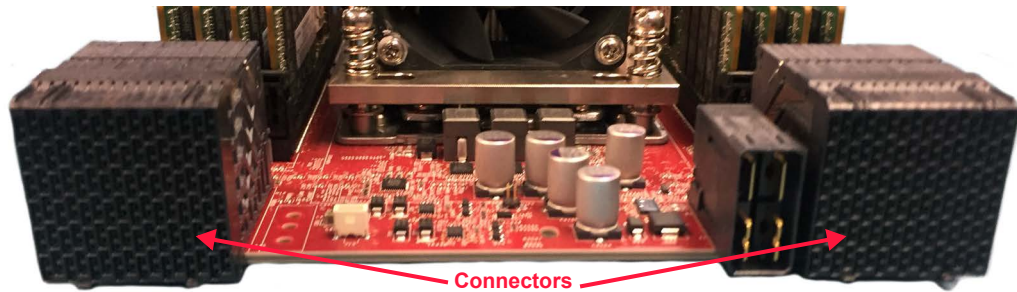

Figure 8.22 Server module connectors
8. Become familiar with the server module connectors. The connectors must align properly so that the module smoothly inserts into the I/O option slot on the rear of the enclosure. Refer to Figure 8.22 on page 112 for a close-up view of the server module connectors.